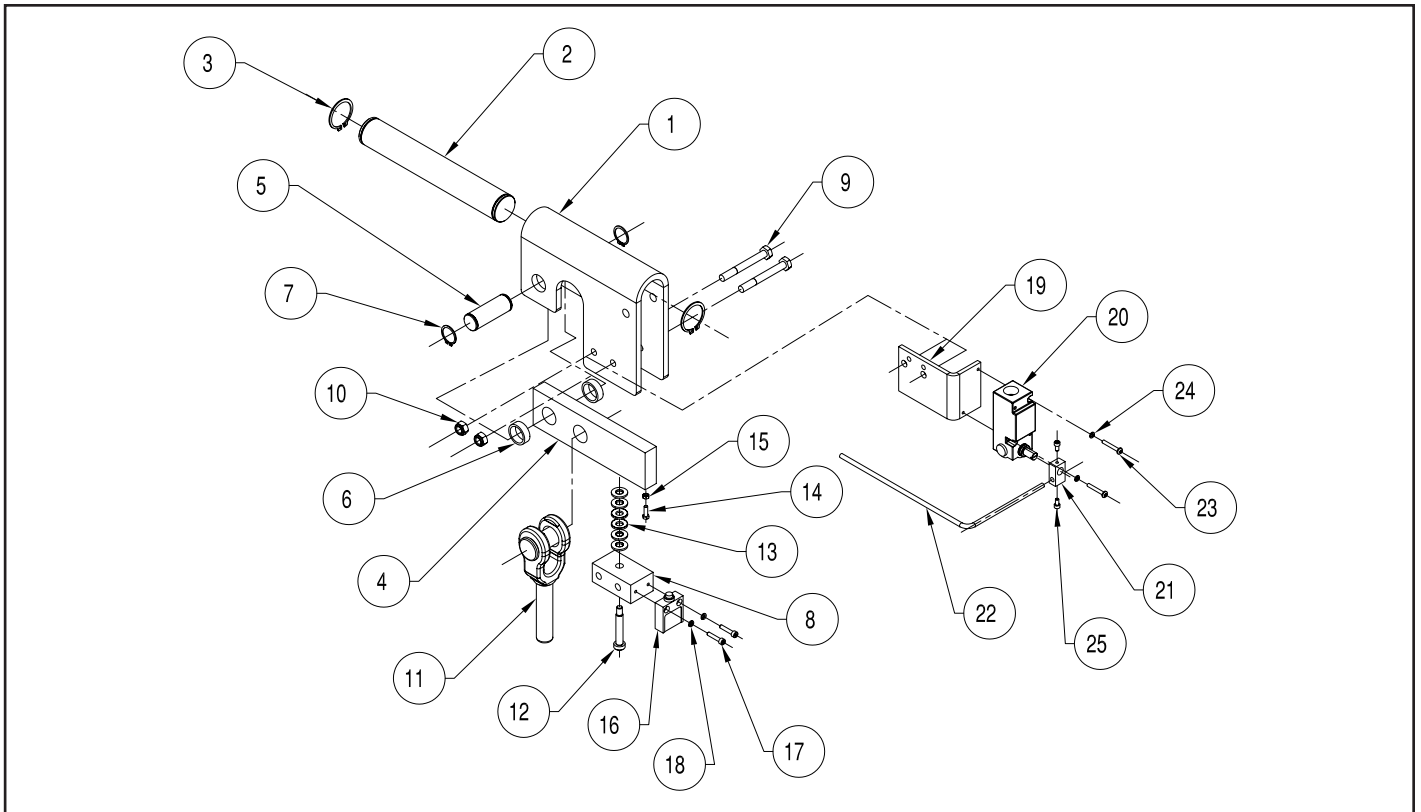

Figure 9-6a. Wire Rope Dead End Assembly with Limit Switch ("B" & "C" Frame)
"B" Frame: Wire Rope Dead End Assembly Components for Figure 9-6a.
**"C" Frame: Wire Rope Dead End Assembly Components for Figure 9-6a.**